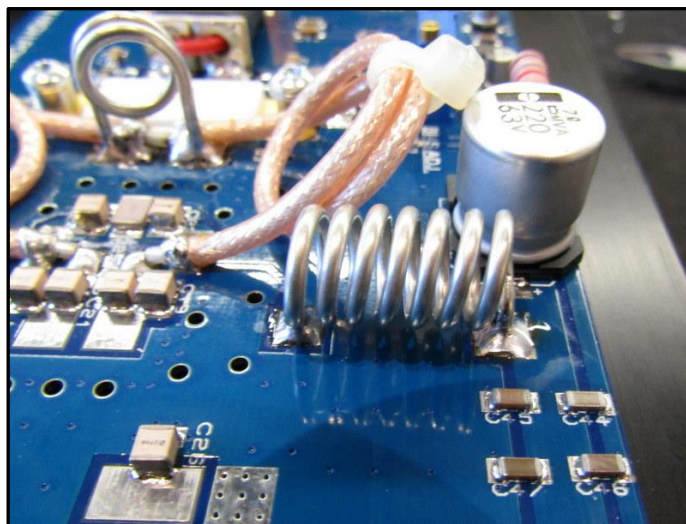

Figure 10: L7 Position.
13. Form two opposing coils with the coax and solder to pads near C19, 20, 21 & C22 as shown in figure 10. Secure the coils with two cable ties and lift the coils slightly away from the PCB.